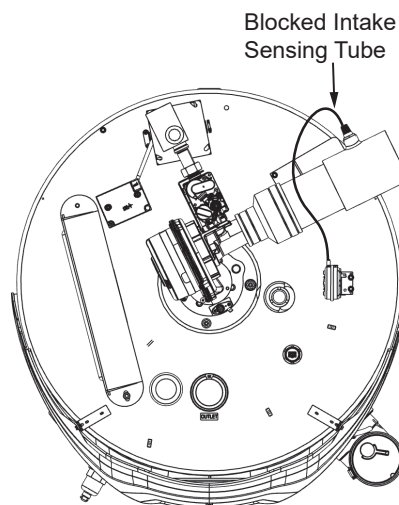

Figure 26. Blocked Intake Air Switch Sensing Tube
2. Disconnect the blocked intake-air switch sensing tube. See **Figure 26** for the location.